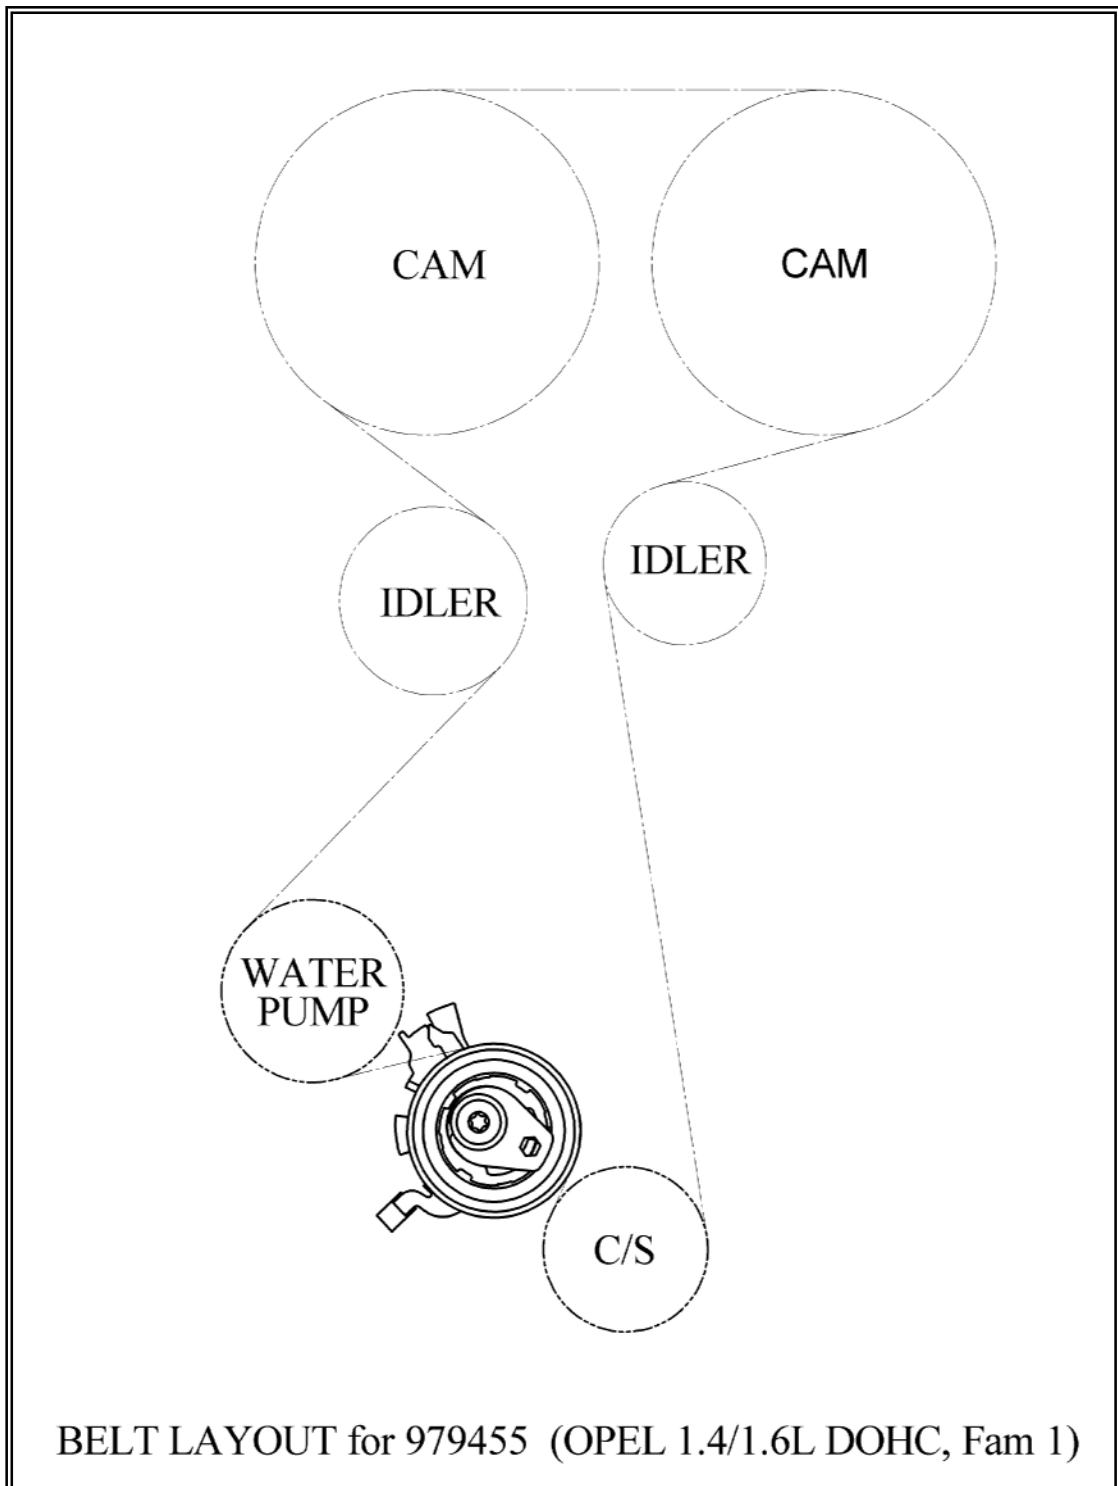

Fig. 4: Belt Layout 979455
6. Install the timing belt being careful to engage the appropriate teeth of all the corresponding sprockets as per drive layout starting with the crankshaft and working counterclockwise (See Fig 4).